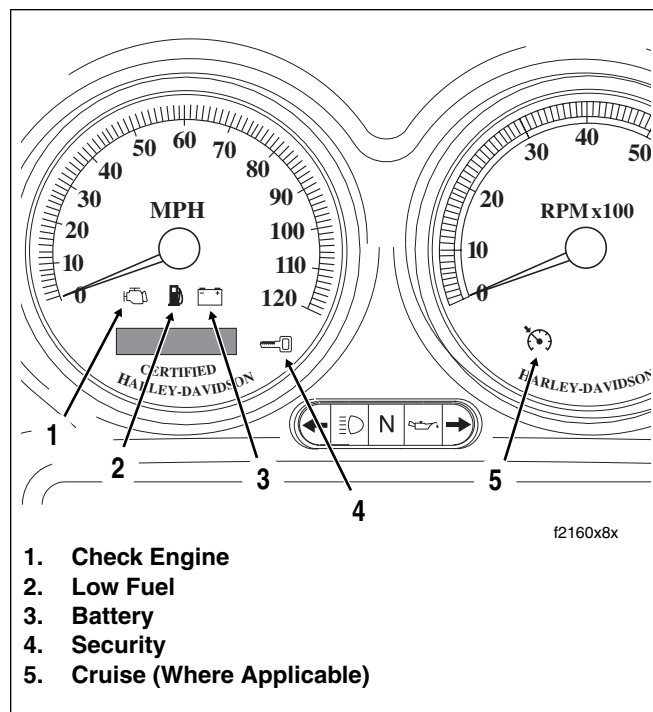

Figure 3-14. Icons
- For a quick check of speedometer function, a “wow” test can be performed. Press and hold odometer reset switch then turn ignition switch ON. Release reset switch. See Figure 3-14. Background lighting should illuminate, gauge needles should sweep their full range of motion, and indicator lamps [battery, security, low fuel (EFI models), check engine and cruise] should illuminate. Some lamps may illuminate even though they do not apply to the vehicle. For example, the cruise lamp may illuminate even though the motorcycle is not equipped with cruise control.